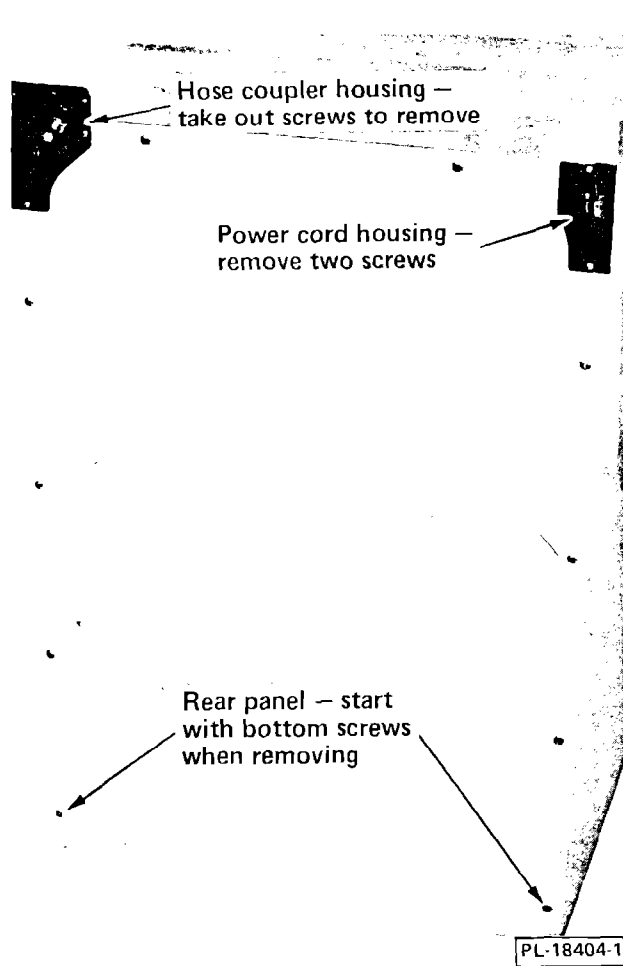

Fig. 3
5. Set the machine upright. Remove and discard the hose coupler housing (Fig. 3). Remove the screws that fasten the power cord housing (Fig. 3).
Remove the rear panel (Fig. 3) by removing its screws. When removing these screws, remove the four from each side, starting at the bottom and working up, and then the top two.